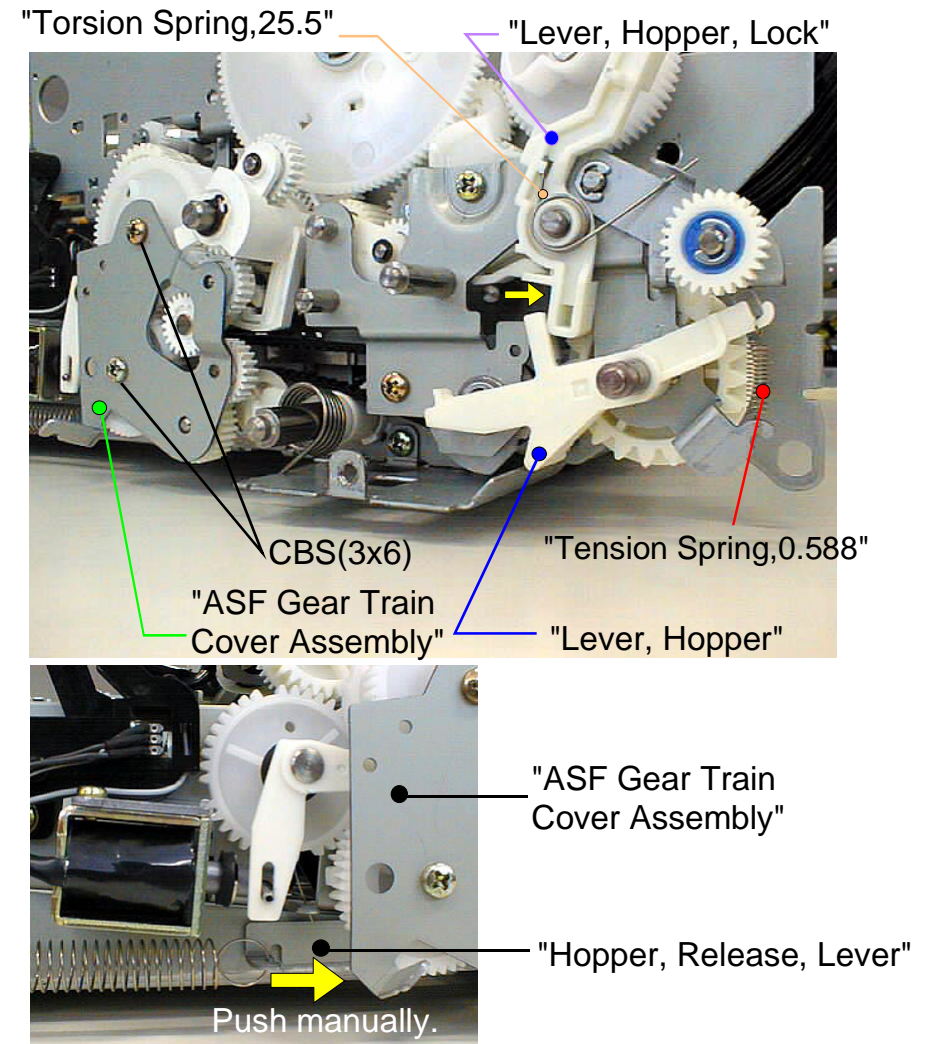

Figure 4-77. Hopper Control Parts Removal
6. Remove "Tension Spring,0.588", which is giving tension to "Lever, Hopper", and remove "Tension Spring,0.588". (Refer to Figure4-77)
7. Remove "Torsion Spring 25.5", which is giving tension to "Lever, Hopper, Lock".(Refer to Figure4-77)
8. In the condition that "Hopper, Release, Lever" is manually slid to the right side, remove "Lever, Hopper, Lock". (Pressing toward yellow arrow direction in Figure4-77 makes "Lever, Hopper, Lock" up at the left side, and "Lever, Hopper, Lock" can be removed easily.) (Refer to Figure4-77)
9. Remove 2 CBS screws(3x6) securing "ASF Gear Train Cover Assembly", and remove "ASF Gear Train Cover Assembly". (Refer to Figure4-77)